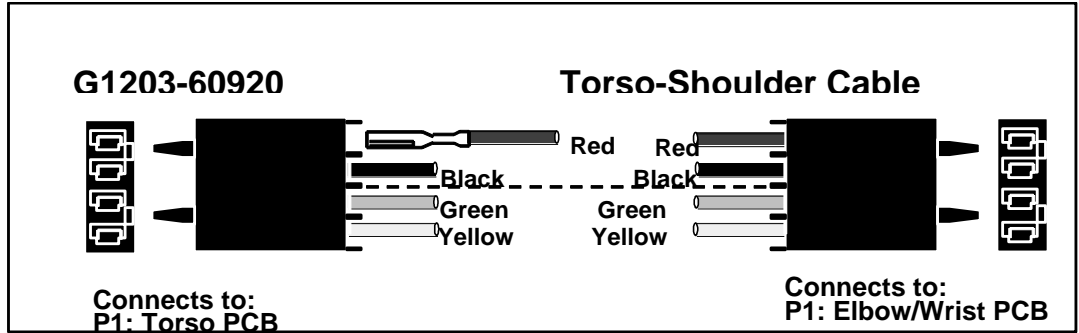

Figure 3-10. Torso-Shoulder cable.
4. Insert the four wires into the supplied connector in the order shown in figure 3-10.